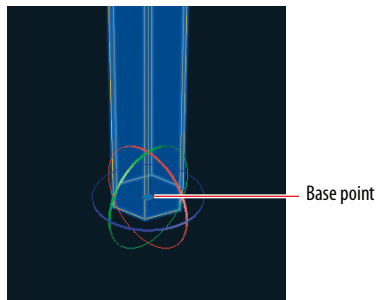

FIGURE 17.23 3D rotate gizmo displaying three colored rings representing the x-, y-, and z-axes
6. Select the ribbon's Home tab, and click the 3D Rotate tool in the Modify panel. Select the mast, and press Enter. Click the lower end-point of the vertical line, which is at the center of the mast, to act as the base point. A 3D rotate gizmo appears (see Figure 17.23).
8. Click the 3D Rotate tool in the Modify panel again; then select the mast and press Enter. Click the same base point shown in Figure 17.23, and click the green axis ring to select the y-axis. Type **4**, and press Enter.